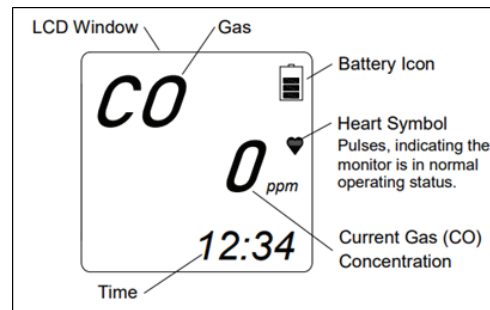
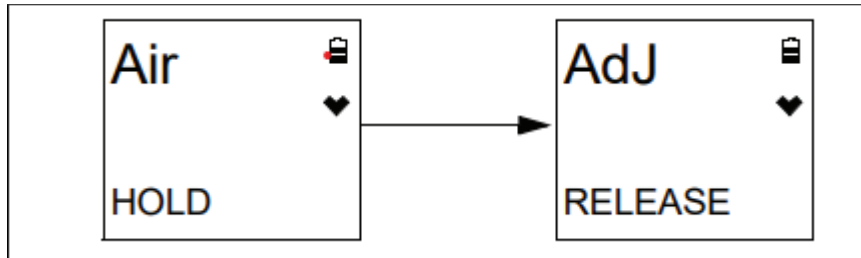

Figure 8
Figure 9
- 2.4.4 After the startup sequence, the COVX goes into Measuring Mode (normal operating mode). The audible alarm beeps, and the LCD display is as shown in Figure 8.
**2.4.9** When the fresh-air baseline has been set, the LCD displays "Adj", and a prompt to RELEASE the AIR button appears, as shown in Figure 9. The monitor audibly beeps once and the screen displays 0 ppm, as shown in Figure 8.